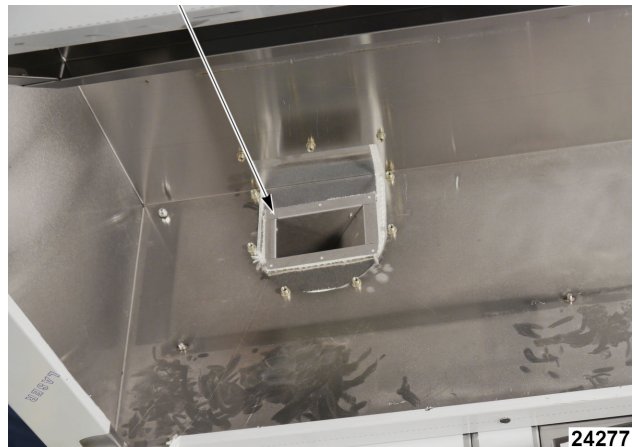
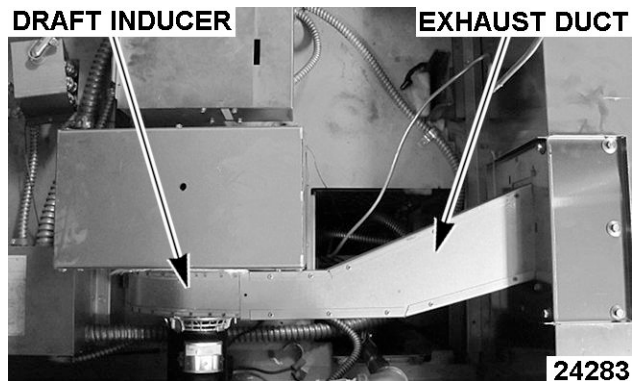

Fig. 120
Fig. 121
2. Insert exhaust duct through hood (Fig. 120) and connect to draft inducer (Fig. 121).